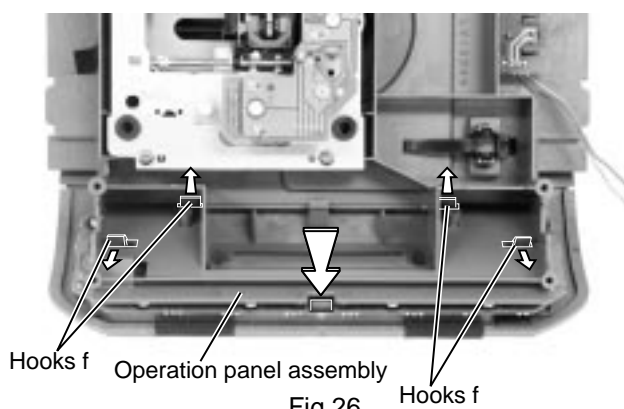

Fig.26
■ Removing the key switch board (See Fig.26 to 28)